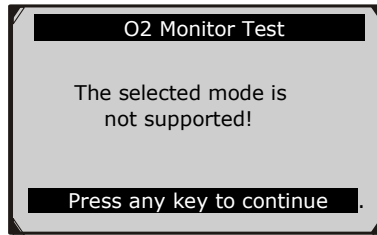

Figure 6.25
- If the vehicle does not support the mode, an advisory message will be displayed on the screen (Figure 6.25).